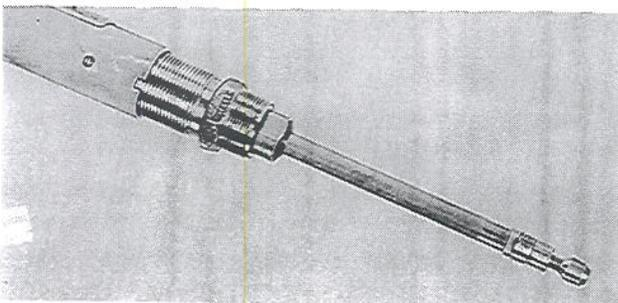

FIGURE 15
- 2b. For Valve Tees. Unscrew stem approximately half way out of the bushing, then attach the bushing to the plug inserting tool. Lubricate the threads on the tool and be sure they screw together freely. Check to be sure threads on the bushing and tee are clean. **Screw stem into bushing as far as possible by hand then back it out one half of a turn. Figure 15.**